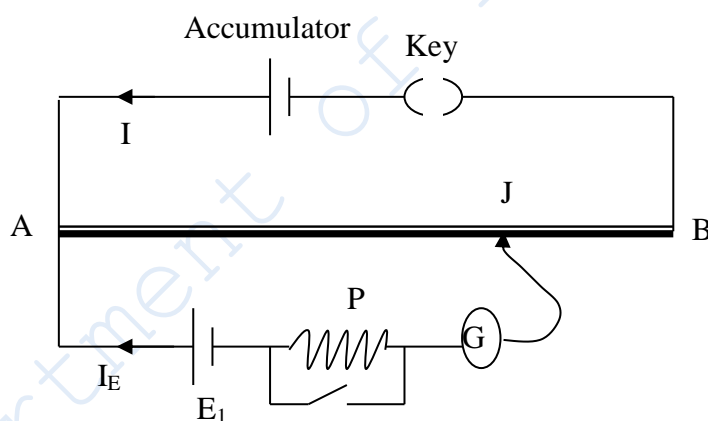

Figure 20.1. The
1. Connect the circuit as shown in Fig. 20.1 with the standard cell in place in place of E_1 . Be sure that the positive poles of both the accumulator and the standard cell are both connected to A. Get the circuit checked by the lecturer in charge.